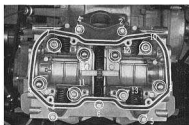

Fig. 4F-19
9. Remove shrouds from both sides and separate the camshaft housing from the cylinder head. Unscrew the bolt from the bottom on the intake manifold and then unscrew the nuts and bolts from the top in the sequence numbered in the figure. (Fig. 4F-18 and 4F-19)